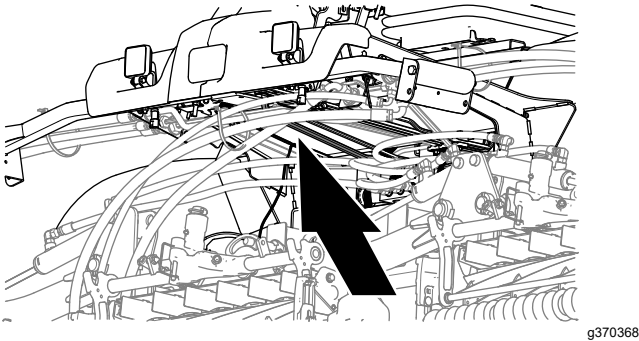
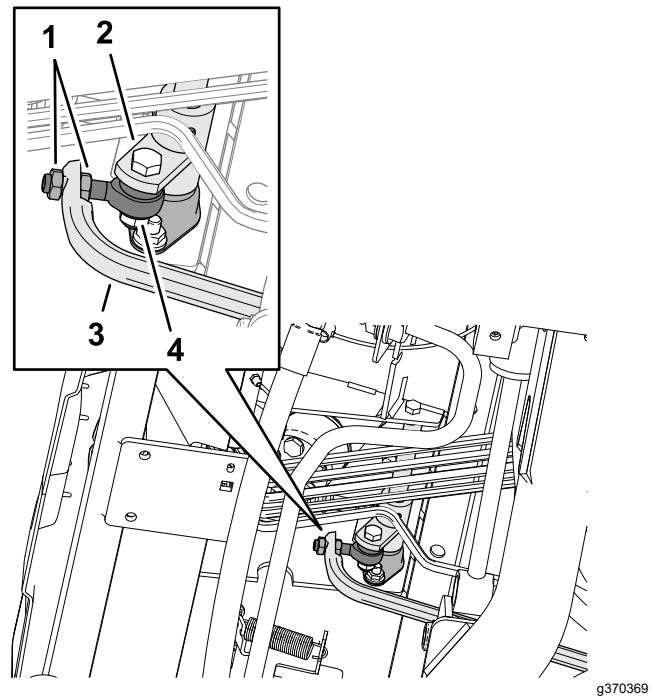

Figure 151
Figure 152
5. Adjust the jam nuts on the rod end to move the traction rod forward to eliminate forward creep or rearward to eliminate rearward creep (Figure 151 and Figure 152).